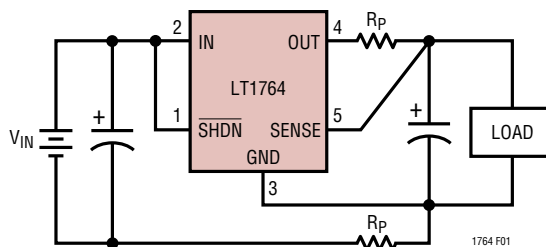

Figure 1. Kelvin Sense Connection
**SENSE (Pin 5/Pin 6):** Sense. For fixed voltage versions of the LT1764 (LT1764-1.8/LT1764-2.5/LT1764-3.3), the SENSE pin is the input to the error amplifier. Optimum regulation will be obtained at the point where the SENSE pin is connected to the OUT pin of the regulator. In critical applications, small voltage drops are caused by the resistance ( $R_P$ ) of PC traces between the regulator and the load. These may be eliminated by connecting the SENSE pin to the output at the load as shown in Figure 1 (Kelvin Sense Connection). Note that the voltage drop across the external PC traces will add to the dropout voltage of the regulator. The SENSE pin bias current is  $600\mu\text{A}$  at the nominal rated output voltage. The SENSE pin can be pulled below ground (as in a dual supply system where the regulator load is returned to a negative supply) and still allow the device to start and operate.